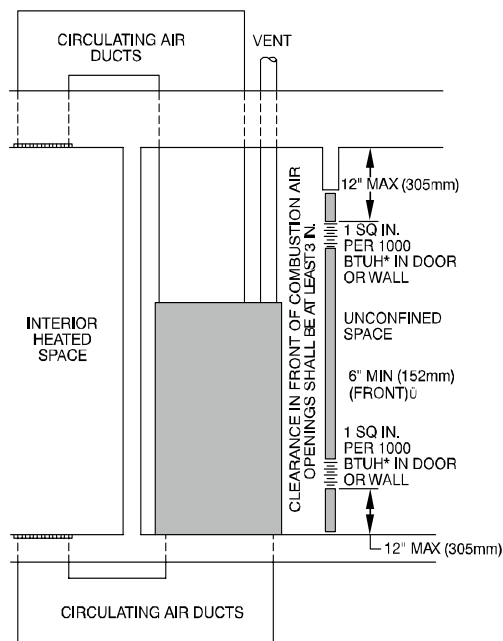

Fig. 9 – Air for Combustion, Ventilation, and Dilution from Indoors L12F013
- b. Combining spaces on same floor level. Each opening shall have free area of at least 1 in.2/1,000 BTU/h (2,000 mm²/kW) of the total input rating of all gas appliances in the space, but not less than 100 in.2 (0.06 m²). One opening shall commence within 12 in. (300 mm) of the ceiling and the second opening shall commence within 12 in. (300 mm) of the floor. The minimum dimension of air openings shall be at least 3 in. (80 mm). (see Fig. 9)